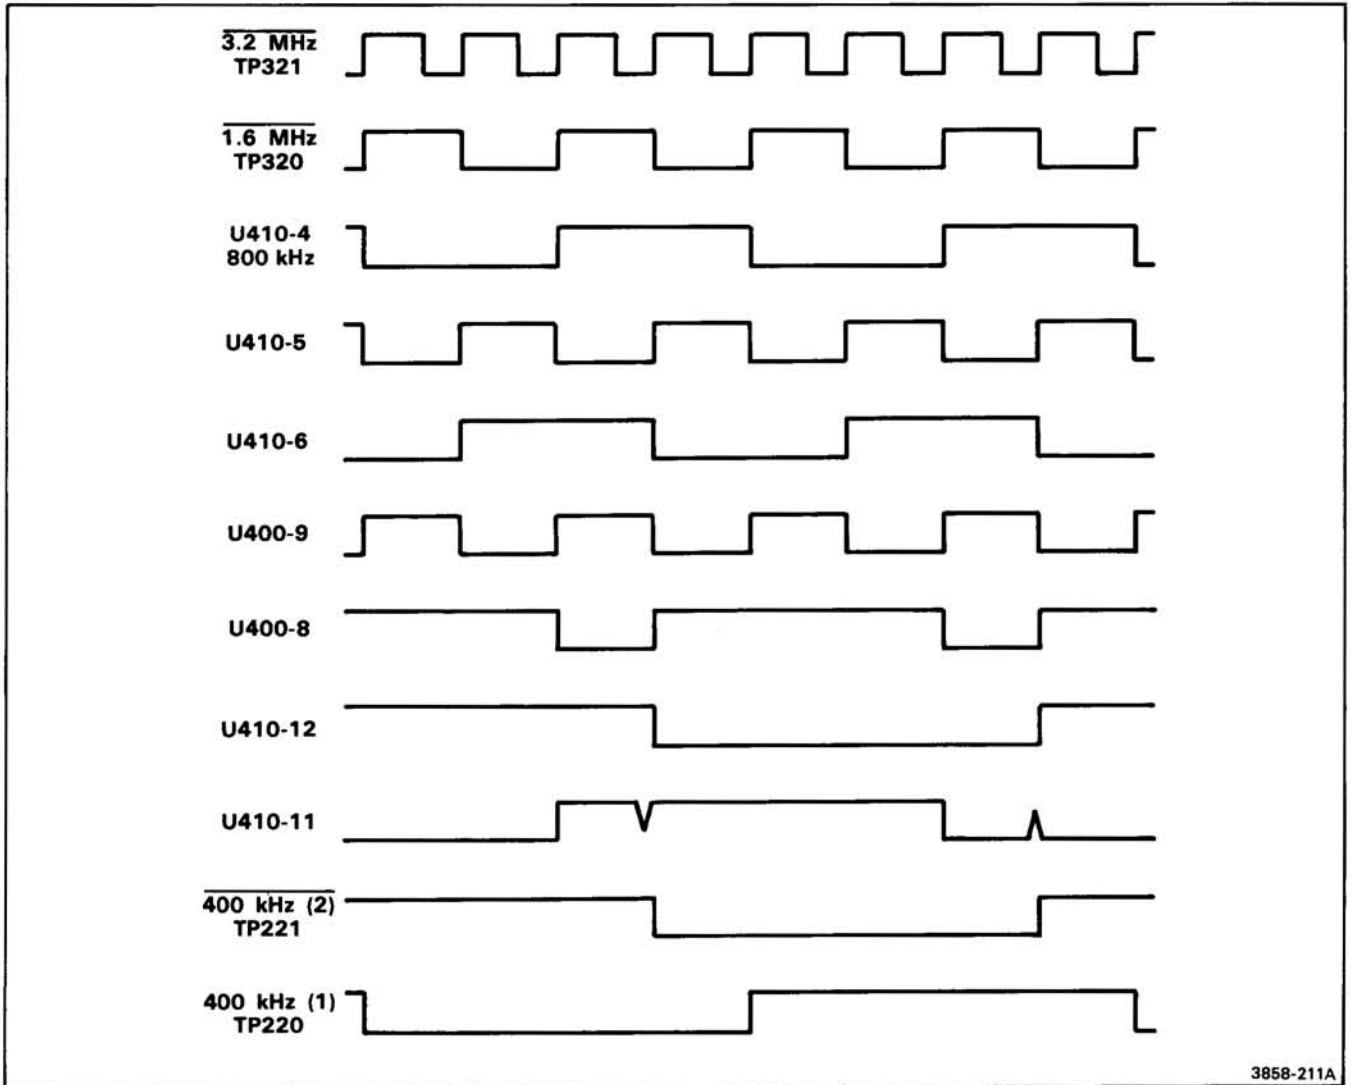

Figure 2-28. Clock generator output signals.
Quad D-Type flip-flop U510 divides the $\overline{3.2\text{ MHz}}$ signal to create clock signals of 1.6MHz, 800kHz and 400kHz (see Fig. 2-28). U510 operates as a state machine. For example, the 1.6MHz output at pin 3 is fed back to the pin 4 input of the flip-flop. On each leading edge of the 3.2MHz signal, the pin 2 output changes state. Note that two phases of the 400kHz clock signal are generated: 400kHz(1) and 400kHz(2).